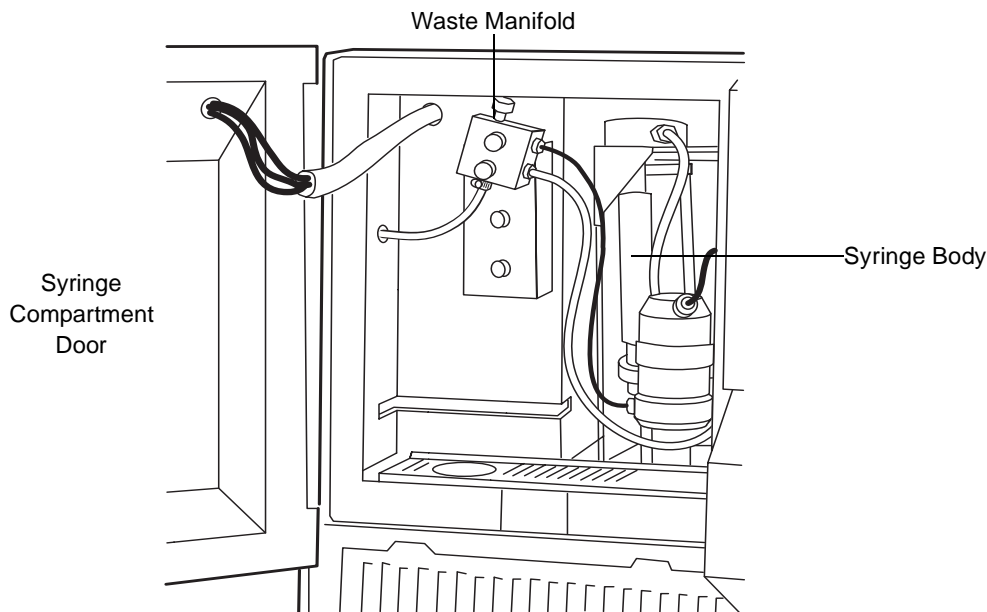

Figure 4-9 Accessing the Waste Manifold
The waste manifold can become contaminated with polymer residue if you do not properly maintain it. When the waste manifold is dirty, extra peaks appear at the beginning of your chromatogram. Waters recommends you clean the waste manifold (Figure 4-9) weekly.
1. Open the syringe compartment door (Figure 4-9).